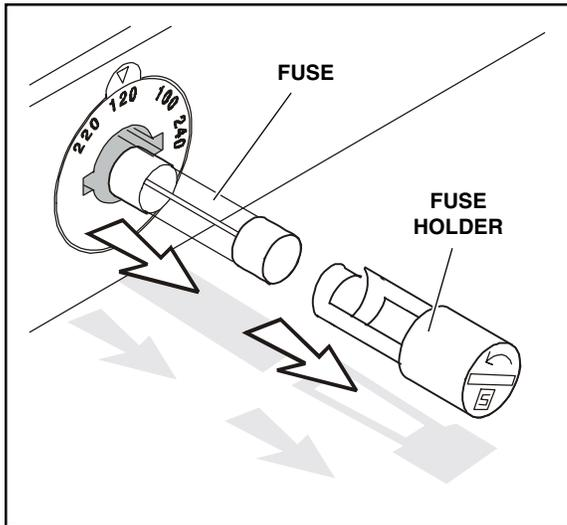

Figure 2-11. Removing the Fuse
2. Use the edge of a coin to push in and turn the fuse holder counterclockwise until it pops out of the voltage select switch, as shown in figure 2-11.